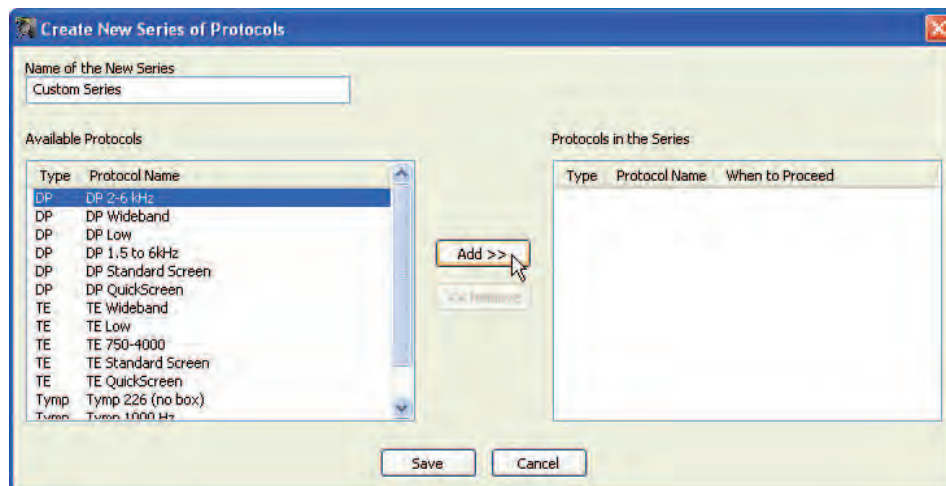

Figure 85
Step 2: From the list of *Available Protocols* on the left of the window, select the first protocol for the series and then click *Add* (Figure 85).
Continue repeating step 2 (selecting from available protocols) and step 3 (determining how to proceed) as described above until the series contains the desired protocols. When finished, click *Save* on the *Create New Series of Protocols* window (Figure 85).